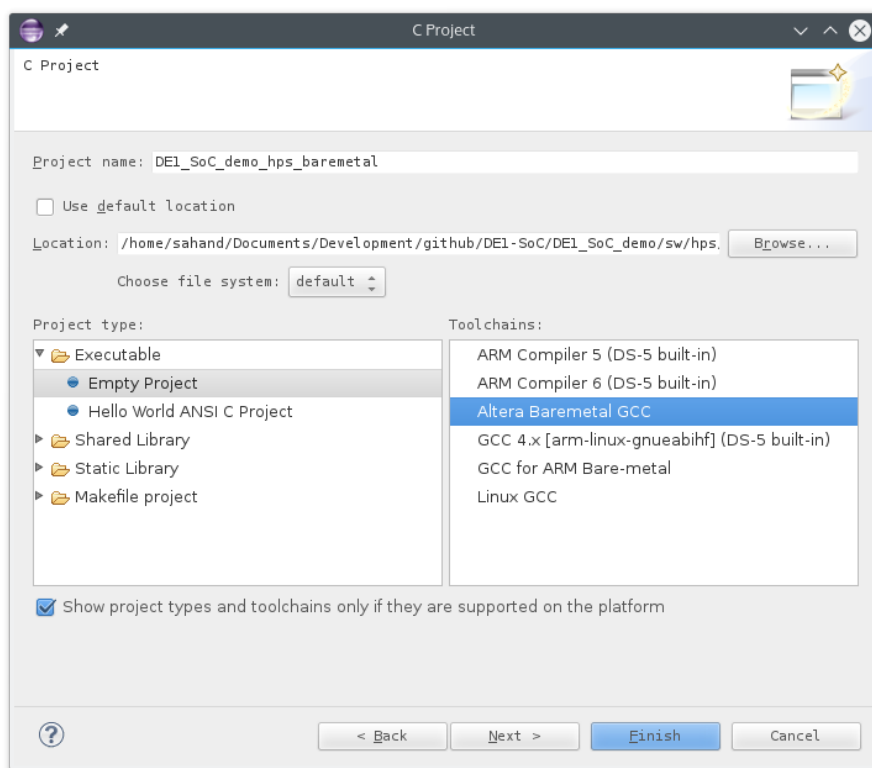

Figure 8-28. New C Project Dialog
- f. You should have something similar to Figure 8-28. Then, press the “Finish” button to create the project.